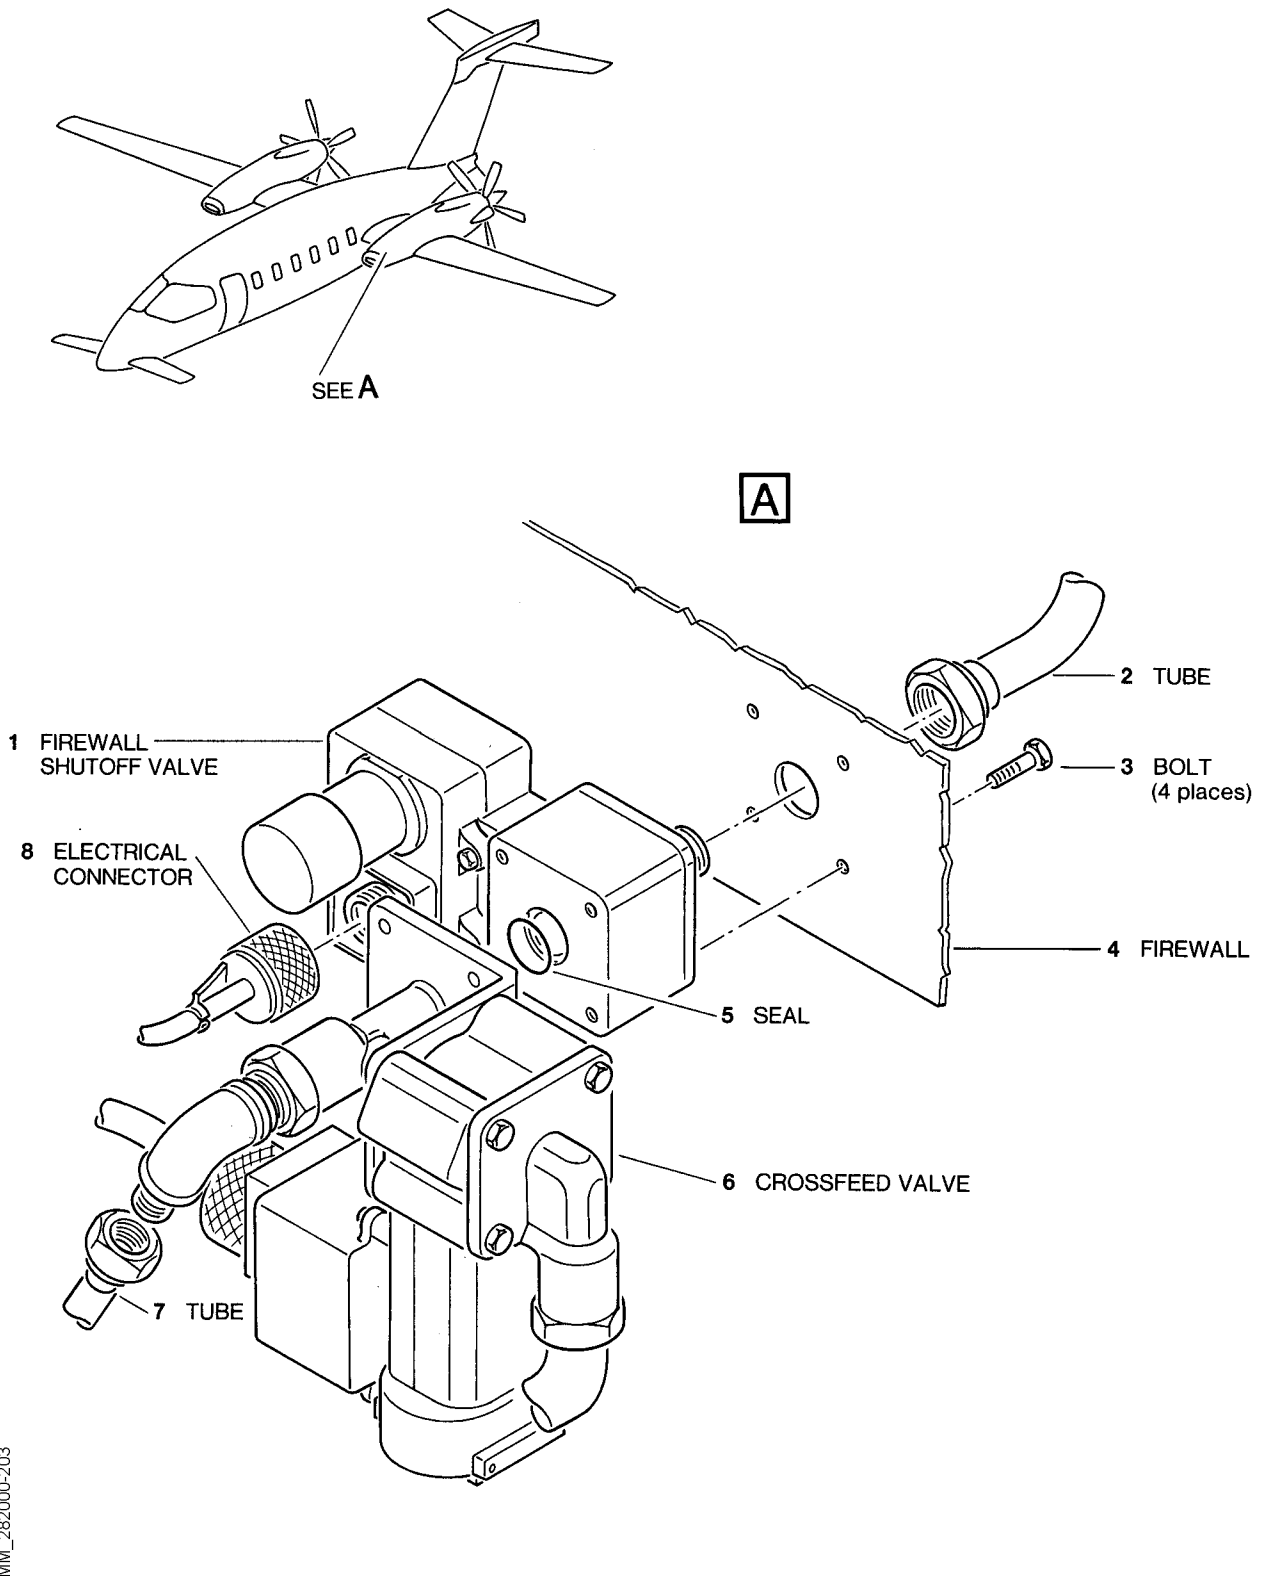

Fig. 203 - LH Firewall Shutoff Valve - Removal/Installation
6. LH Firewall Shutoff Valve - Removal (Ref. Fig. 203)
7. LH Firewall Shutoff Valve - Installation (Ref. Fig. 203)